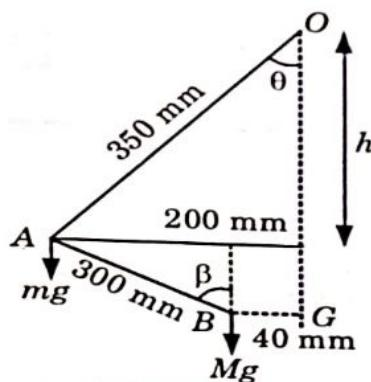

Fig. 4.31.1.
1. From Fig. 4.31.1 $\tan \theta = \frac{r}{h} = \frac{200}{\sqrt{350^2 - 200^2}} = 0.6963$